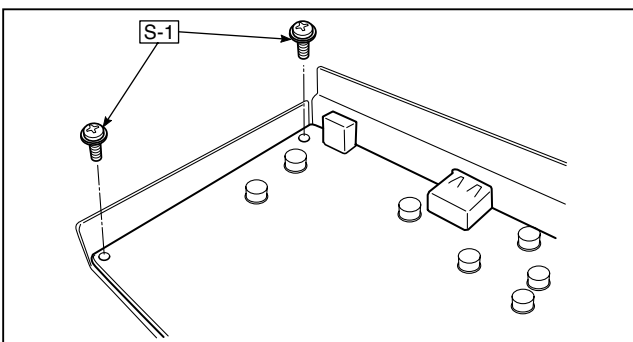

Fig.14
- 4.Remove the "S-1" screw shown in the figure 14 and then remove the Main Board Assy from the Main Board Shield.